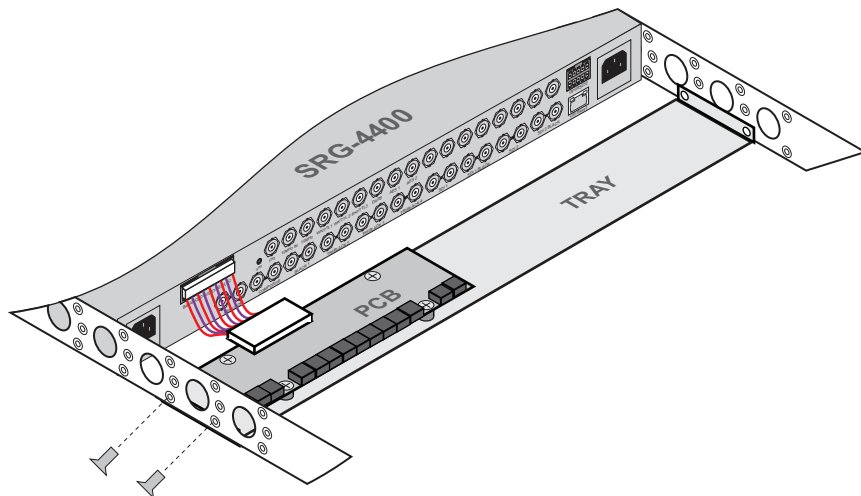

Figure 2.4 Connecting the Breakout PCB to the SRG-4400 Rear Panel
2. Connect the other end of the same Interface Cable to the **BALANCED** Connector on the SRG-4400 rear panel. Refer to **Figure 2.4**.